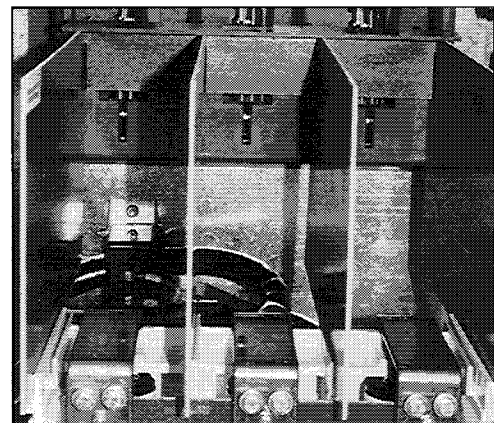

Fig. 54 Fuse Barrier Placement
- Check the fuse barriers for cleanliness and proper positioning as shown in Fig. 54. There are four vertical barriers located between and outside fuses. A fifth angle shaped barrier, is positioned horizontally across the four barriers toward the back.